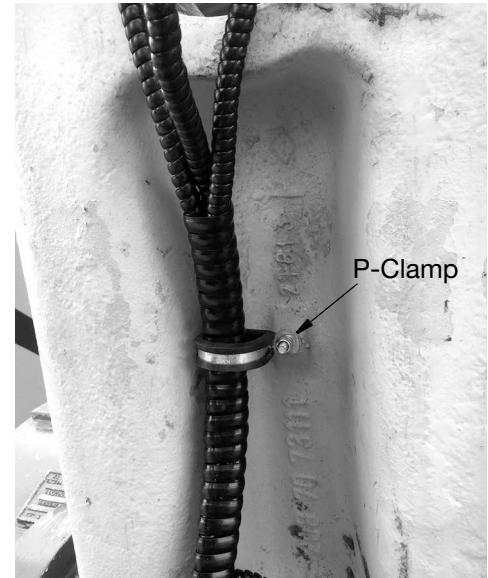

FIG. 19
- Only one weld stud is required for P-Clamp installation on the H-Link. It should be installed to the casting protrusion in the middle of the H-Link (FIG. 19).